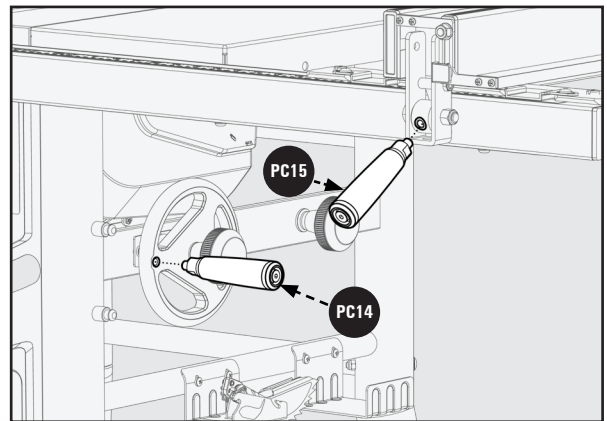

Figure 18
2. Insert one Handle **PC14** to the Bevel Hand Wheel located on the right side of the Saw, as seen in Figure 18.
1. Screw the Labeled Handle **PC15** to the Rip Fence with the supplied Hex Wrench. See in Figure 18.